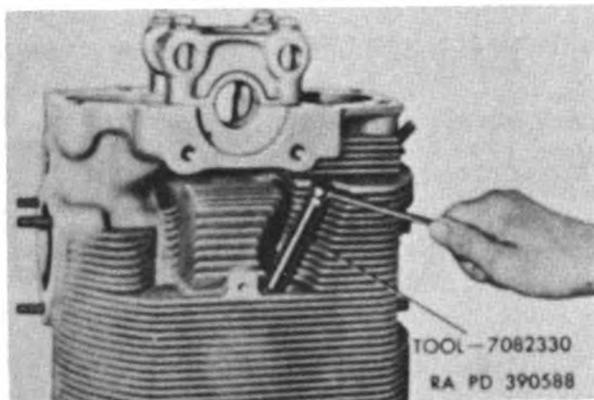

Figure 84. Staking spark plug Heli-coil threaded insert.
- (g) Stake insert in place by threading tool 7082330, as shown in figure 84, into insert to drive serrated-tooth section into casting. Remove tool.